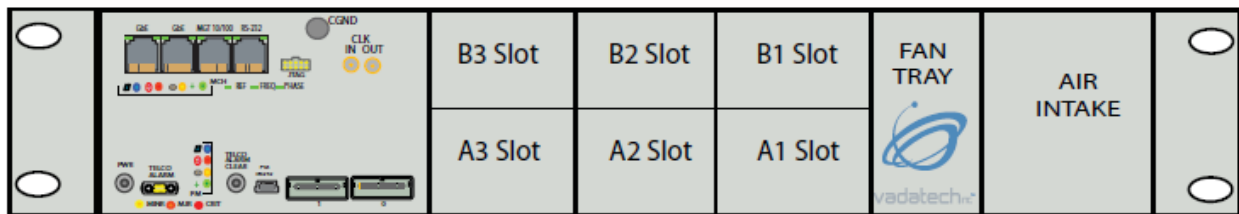
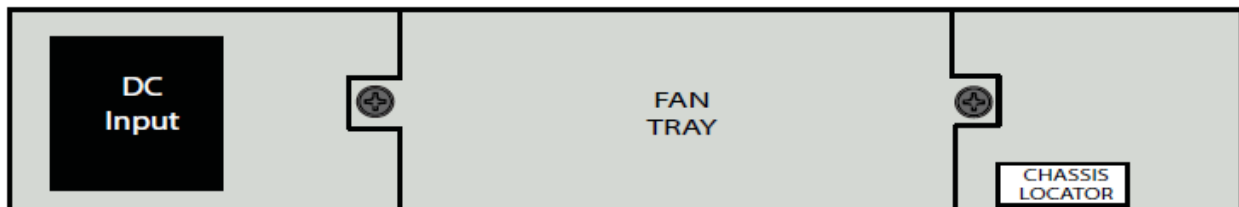

Figure 31: VT853 Front Side AMC Slot Layout.
Figure 32: VT853 Back Side Layout.
The VT853 carrier includes a MicroTCA Carrier Hub (MCH), a MicroTCA Power Module (PM) and two MicroTCA Cooling Units (CUs). A front panel provides access to these components as well as Dual QSFP Ports connected to the switch fabric. The slot layout is shown in **Figure 31** and **Figure 32**.
To set the Carrier number, set the Chassis Locator switch according to Table 4. The Chassis Locator switch is found on the back side of the VT853, as shown in **Figure 32**.